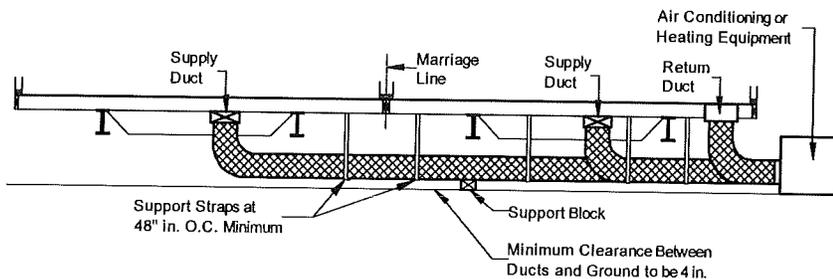

Figure 69. Ducts connecting exterior heating and/or cooling equipment to the home
2. **Install ducts.** Install the appropriate supply and return ducts (not provided) between the remote unit and the home (**Figure 69**), making connections according to the instructions for crossover ducts in **Crossover Connections** (p. 59).
Prepare the whole-house ventilation system according to the ventilation system manufacturer's instructions. Confirm that any fresh air intake ducts extend to the exterior and do not draw air from the crawlspace under the home. Do not allow any fresh air ventilation intake ducts to become kinked or restricted, forming a trap (**Figure 69**).